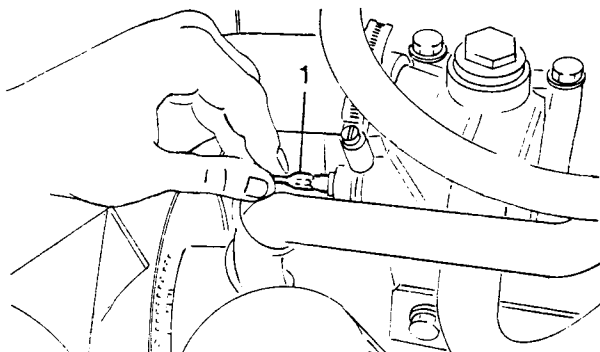

Fig B4.12
- (22) Refer to Fig B4.12. Disconnect the electrical lead (1) at the coolant temperature transmitter.